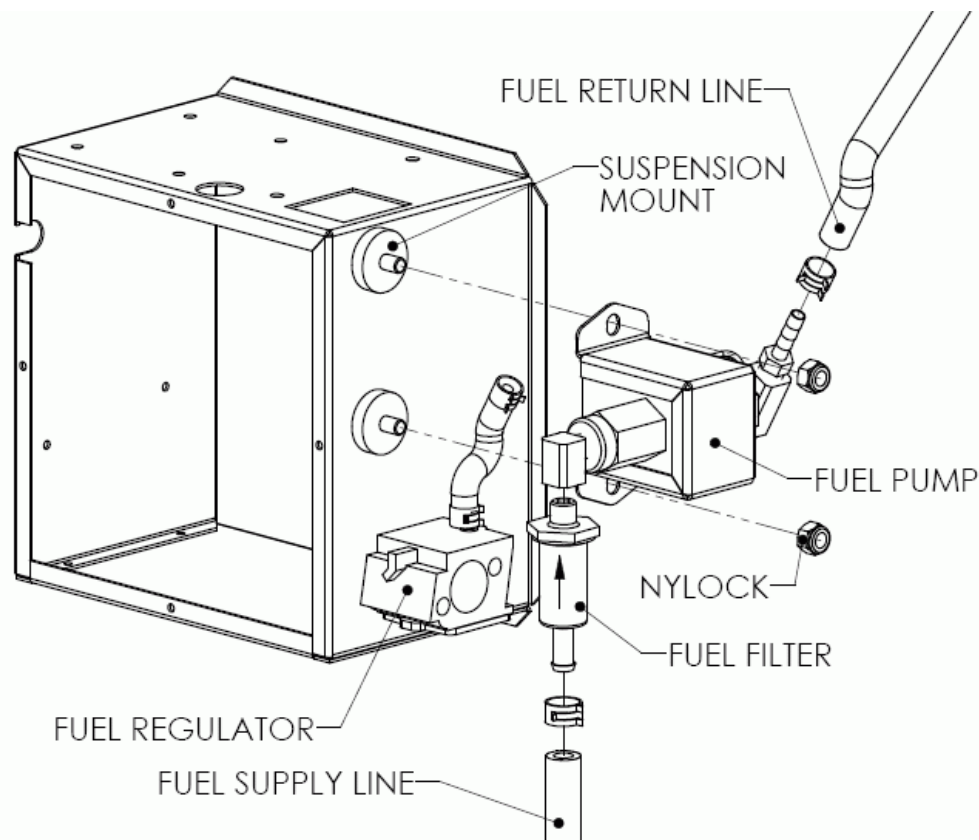

Figure 13: Fuel pump assembly
5. Use an 11/32" socket to remove the 4 nuts from the upper left hand corner of the burner box (see Figure 13).